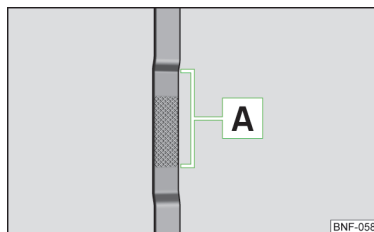

Fig. 100
Dipstick » Fig. 100
- The oil level must never be above the  range » Fig. 100 - there is a risk of damaging the exhaust system!